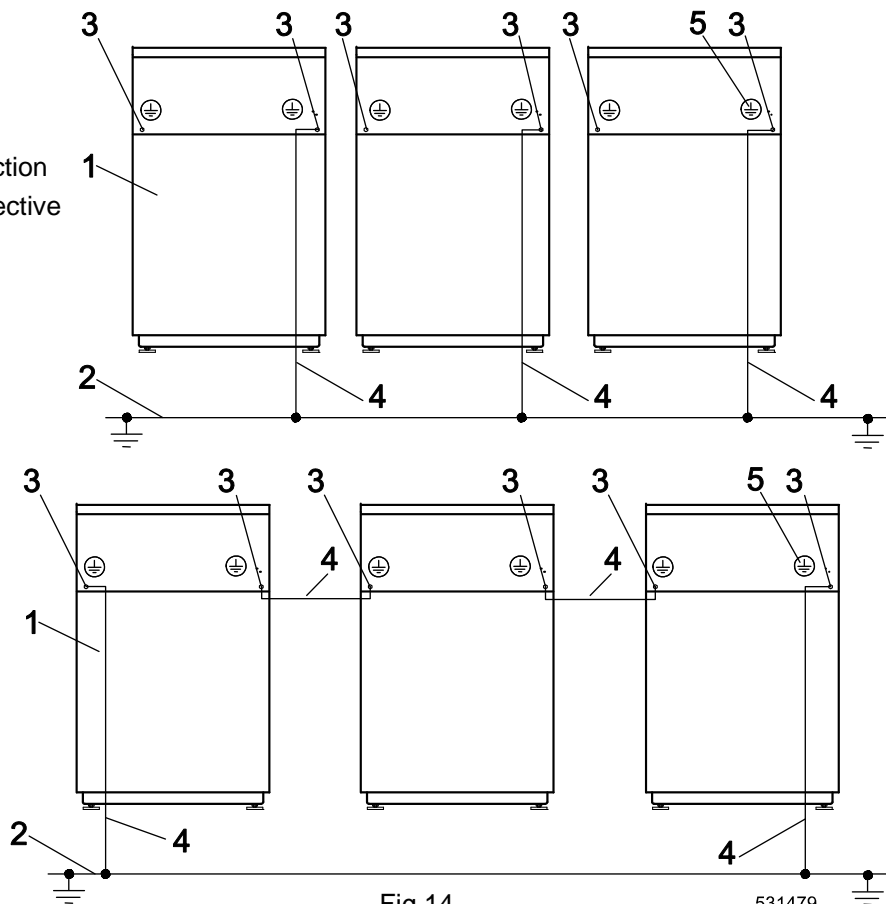

Fig.14
Independent of the supply cable, the washer must be connected to the laundry protective earth system with a separate conductor. The protection conductor, enabling this connection, is not included with the washer. If there are other washers/appliances with exposed conductive parts, which can be touched simultaneously, make sure to make equipotential bonding between all these appliances. The external protective terminal for this purpose is located on the rear panel of the machine frame, (fig.14., pos.3). The minimum protection conductor's cross section depends on the supply cable cross section and can be found in table 10. However, for the protection purposes with the supply cable section of min. 4 mm² we recommend to select a larger conductor section, i.e. 6 mm².